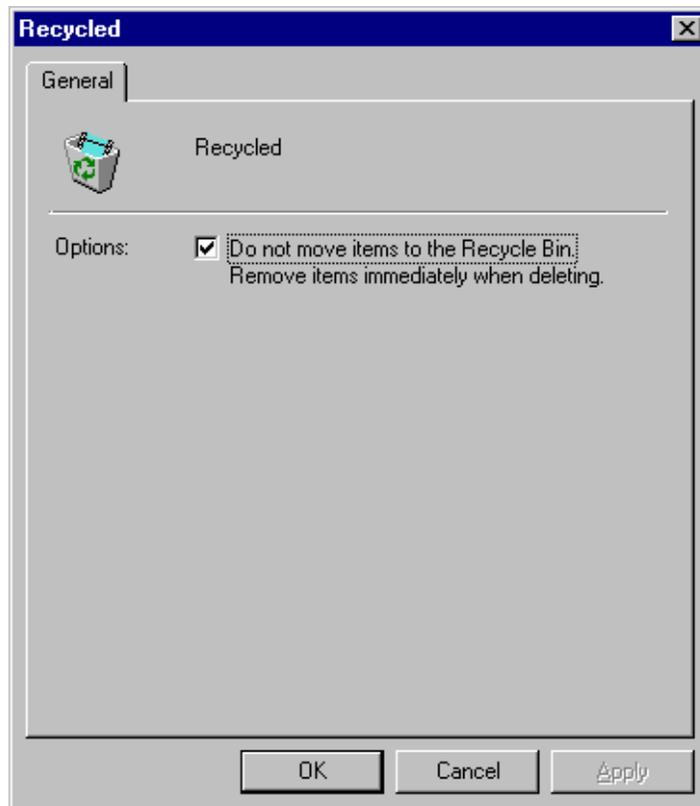

Figure 48. Recycle Bin properties dialog box
2. Choose **Properties** with the right-click or from the **File** menu. The Recycle Bin Properties dialog box appears (see Figure 48).